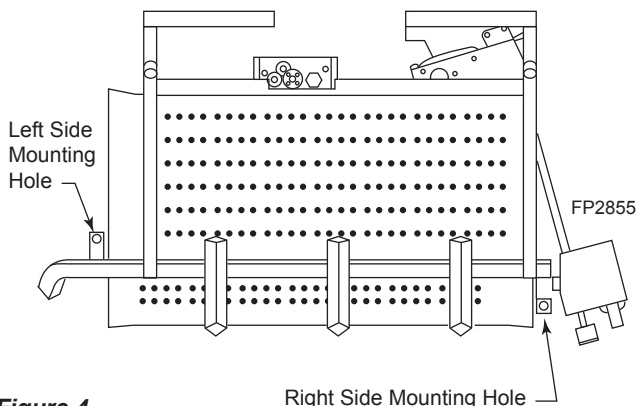

Figure 4 -
2. Refer to *Figure 4* for hole locations. After centering the grate correctly, mark the hole positions on the fireplace/firebox floor. Drill two (2) 5/32" diameter holes approximately 1½" deep.
3. Anchor the grate to the fireplace/firebox floor using the screws provided. *Figure 4*